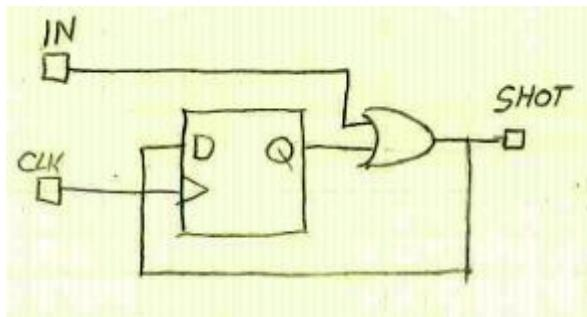

Figure 1
- [2 points] Perform the above analysis for Figure 1.